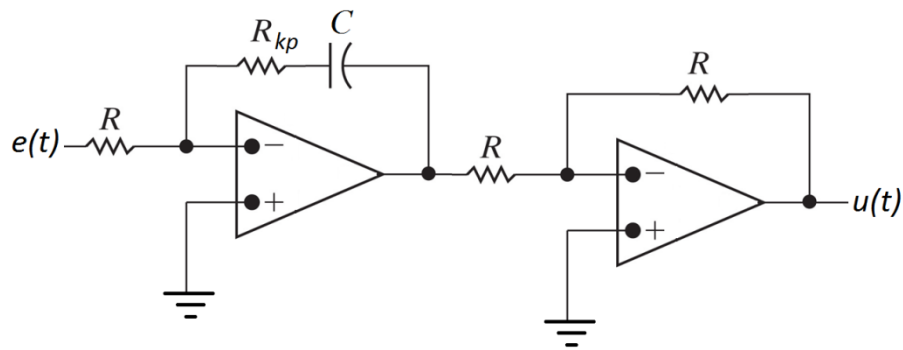

Figure 3: PI Controller ( $k_p + k_i/s$ )
1. Derive the governing differential equation for the circuit in Figure 3. What is the transfer function  $H(s) = U(s)/E(s)$ ?
In addition, cascaded inverting amplifiers can also produce a proportional (P) controller,  $k_p$ . By adding a capacitor to the feedback path of an inverting amplifier, it is possible to create a proportional-integral (PI) controller (see Figure 3).